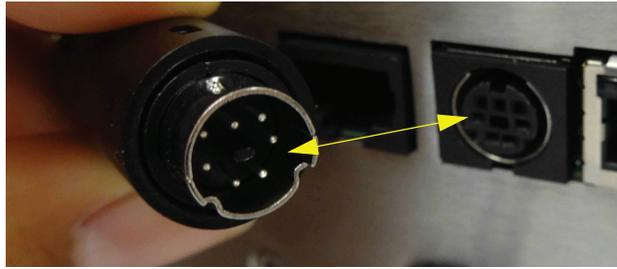

Figure 3-4 *SmartPort* cable into *SmartPort*
9. Connect *SmartPort* cable to *SmartPort* shown in Figure 3-4.